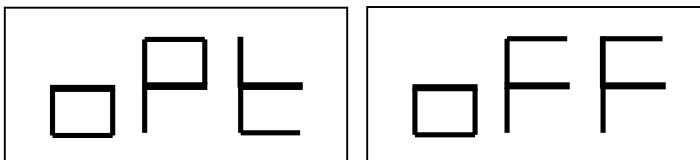
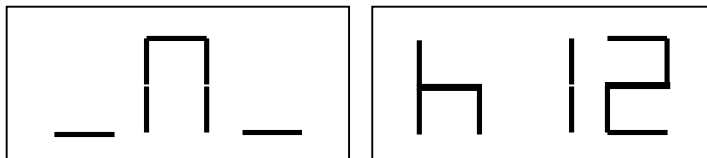

Fig. F5.2 Optimisation Programme not possible
Fig. F5.3 - "Bring the valve to the 12 o'clock position" message
2. If the wheel's static imbalance is less than 12 grams, the machine will display the message shown in Figure F5.2 for a second and then will automatically exit the optimisation programme. If the wheel's static imbalance is instead greater than or equal to 12 grams, the message shown in Figure F5.3 will be displayed;
7. At the end of the cycle, the message seen in figure F5.3 will be displayed. Two options are available: